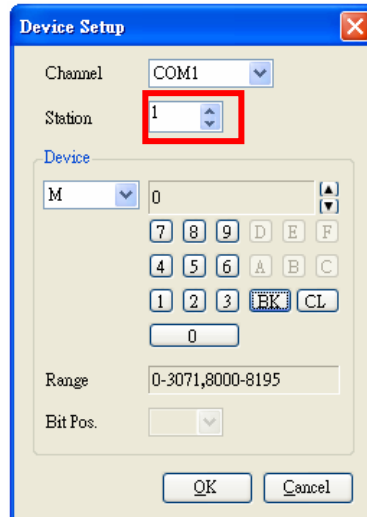

Figure 2-1-38: Set device office number
- The default office number is 1 in PLC, so the device office number in the edit screen shall be set to 1 in order to communicate, as shown in figure 2-1-38.